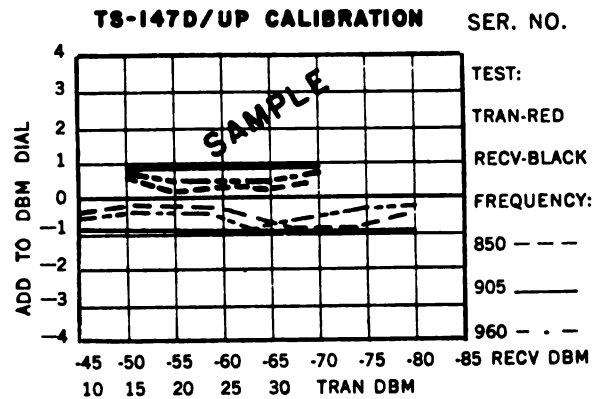

Figure 4-2. Typical Calibration Chart
(See figure 4-2.)
(1) Each DBM attenuator is individually calibrated and a correction curve is included with every test set. It is affixed to the inside of the cover of the carrying case over the list of contents decal.
(2) It will be seen that for the various dbm positions of the attenuator dial, positive or negative correction factors are indicated by the curves. These correction factors should be added to, or subtracted from (added algebraically to), the DBM dial readings to get the true attenuation for a particular measurement.
(3) Curves have been plotted for three frequencies, corresponding to each end (8500 and 9600 mc) and the center (9050 mc) of the operating range of the test set. The three curves in RED show the calibrations at these frequencies when the TEST knob is in the TRAN position. The three BLACK curves show the corrections when the TEST knob is in the RECV position. (See figure 4-2.)
IN FIGURE 4-2 THE HEAVY LINES EXTENDING FROM +15 to +35 DBM ON FIGURE 4-2 ARE FOR USE WHEN THE TEST KNOB IS IN THE TRAN POSITION. THEY ARE PRINTED IN RED ON THE CALIBRATION CHARTS ISSUED WITH THE RADAR TEST SETS.